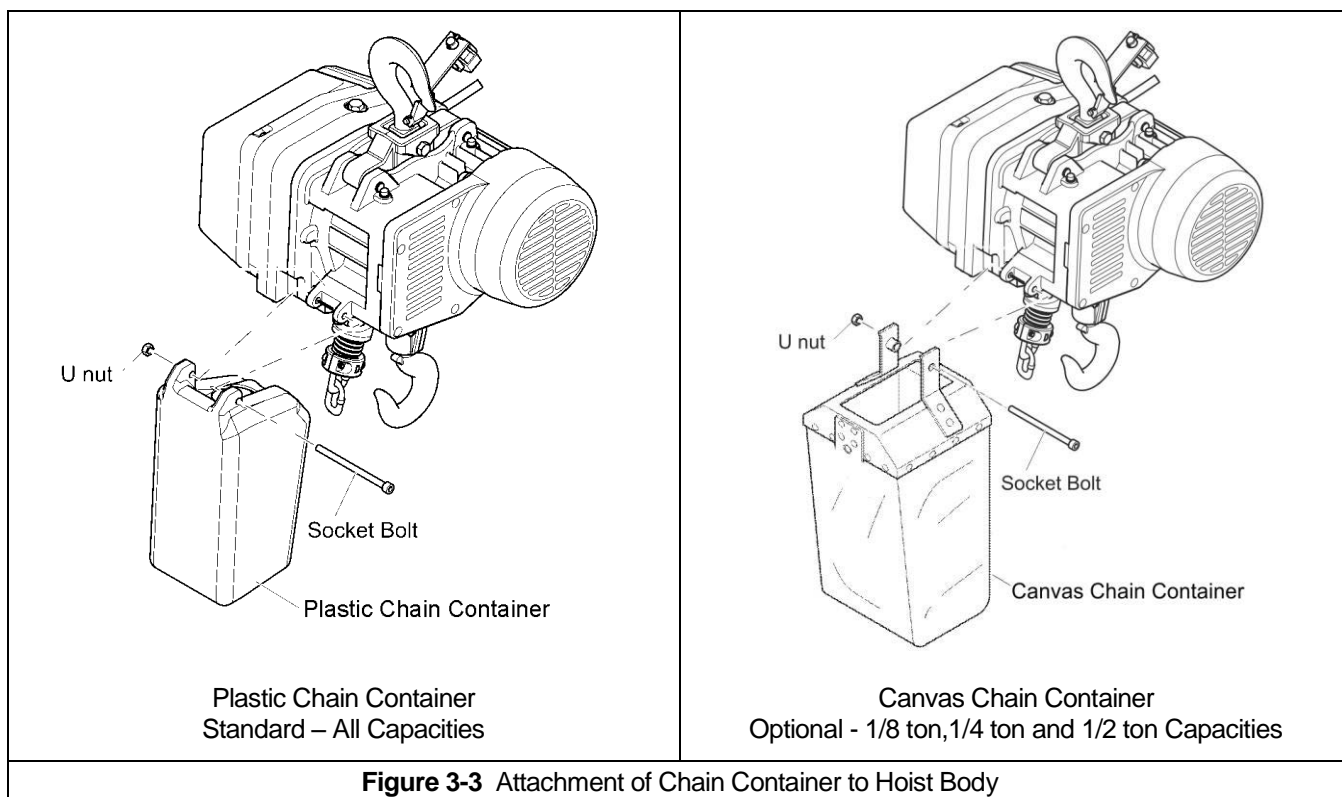

Figure 3-3 Attachment of Chain Container to Hoist Body
3.2.2 Standard Plastic Chain Container (all capacities) or optional Canvas Chain Container (1/8 ton, 1/4 ton and 1/2 ton capacities only). When the optional canvas chain container is selected, fully unfold and install it on the hoist body as shown in **Figure 3-3**. The free end of the chain is not attached to the hoist body and the chain stopper is installed on the third link from the free end (see **Figure 3-1**). To place the chain into the chain container, feed the free end of the chain into the container. Take care to avoid twisting or tangling the chain. NEVER put all the chain into the container at once. Lumped or twisted chain may activate the down limit switch and stop the hoist during lowering.